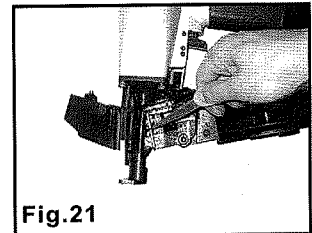

Fig.21
b. Use a slender, soft steel rod to drive the drive blade to its uppermost position. Use needle nose pliers to remove the jammed fastener (Fig.21).